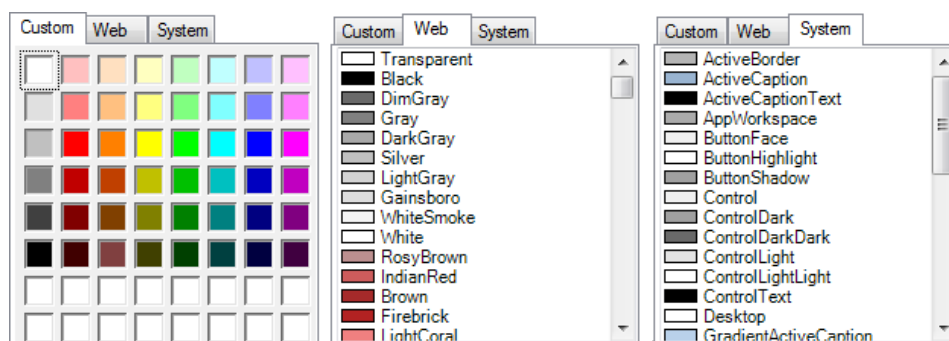

Figure 37 Colour selection box
- **Grid Color** facilitates definition of the colour of the grid of the **Depth Monitor** panel. When the user clicks **Grid Color** (or any property associated with definition of colour), a colour selection box as displayed in Figure 37 will open. Note that it is divided into three tabs: **Custom** (left), **Web** (middle) and **System** (right). The user can choose between the large variety of colours supplied, and it is also possible to define custom colours, based on an RGB colour scheme, by manually typing in the three components.